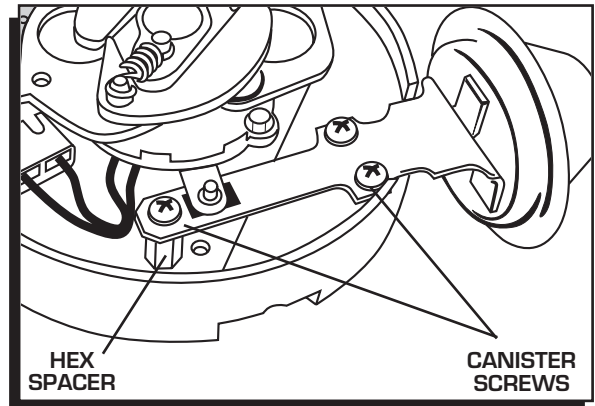

Figure 12 Removing the Vacuum Canister.
1. Remove the three Phillips screws that hold the advance canister (Figure 12).